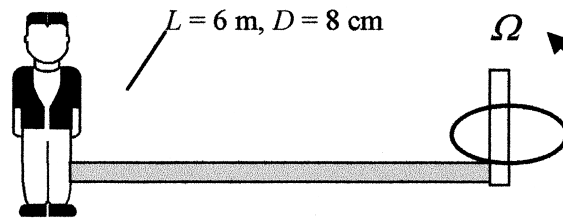

Fig. P7.77
**7.77** To measure the drag of an upright person, without violating human-subject protocols, a life-sized mannequin is attached to the end of a 6-m rod and rotated at  $\Omega = 80$  rev/min, as in Fig. P7.77. The power required to maintain the rotation is 60 kW. By including rod-drag power, which is significant, estimate the drag-area  $C_D A$  of the mannequin, in  $\text{m}^2$ .